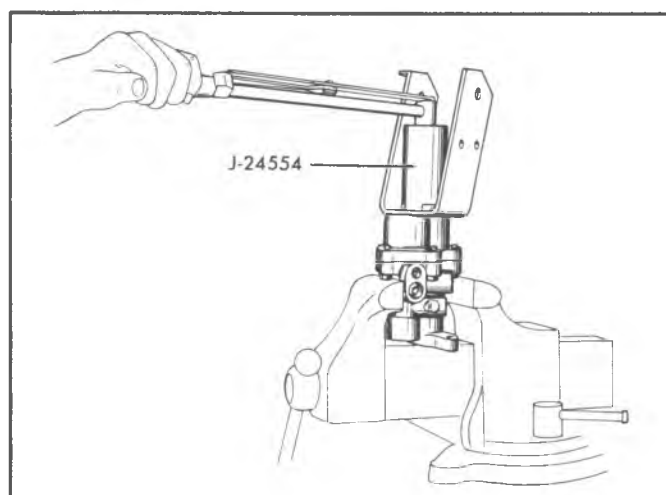

Fig. 10--Installing Mounting Bracket Nut (Typical)
14. Install the **NEW** bracket nut with the staking groove outward on the threaded hub of the booster. Using Tool J-24554 and a torque wrench (fig. 10), tighten the nut to 95-120 ft. lbs.